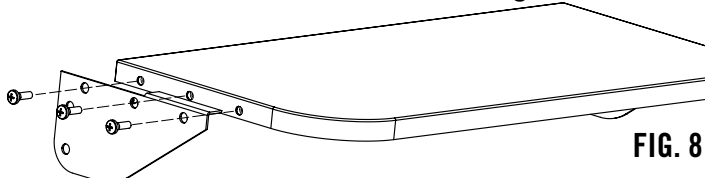

FIG. 8
1. Install side shelf brackets as shown in Fig 8.